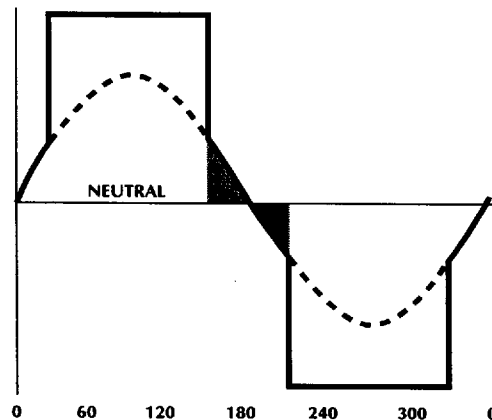

Figure 2. Typical Motor Phase Waveform with Back-EMF Superimposed (Ideal Commutation).
The ML4425/ML4426 contains a patented back-EMF sensing circuit which samples the phase which is not energized (Shaded area in figure 2) to determine whether to increase or decrease the commutator (VCO) frequency. A late commutation causes the error amplifier to charge the filter (RC) on pin 20, increasing the VCO input while